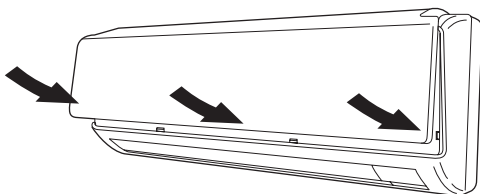

Fig. 19b
- (b) Press the bottom right and left corners and center of the air intake grille to attach it to the indoor unit. (Fig. 19b)